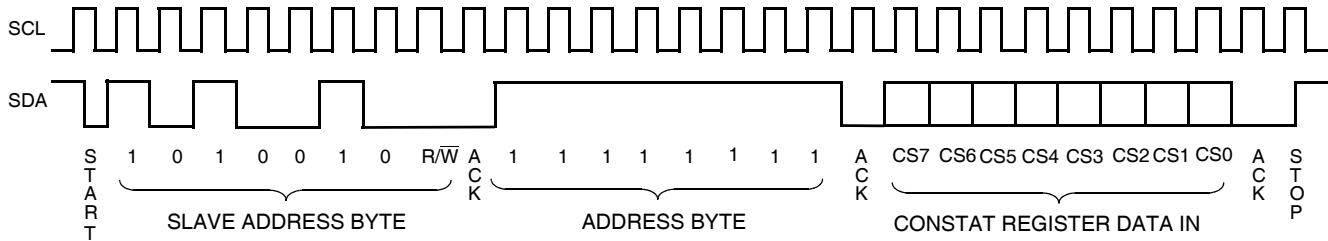

Figure 18. CONSTAT Register Write Command Sequence
Writes to the WEL bit do not cause an internal high voltage write cycle. Therefore, the device is ready for another operation immediately after a STOP condition is executed in the CONSTAT Write command sequence (See Figure 18).
- After a successful write operation to any bits of the CONSTAT register has been completed (See Figure 18).
The CONSTAT register is accessed using the Slave Address set to 1010010 (Refer to Figure 4.). Following the Slave Address Byte, access to the CONSTAT register requires an Address Byte which must be set to FFh. Only one data byte is allowed to be written for each CONSTAT register Write operation. The user must issue a STOP, after sending this byte to the register, to initiate the nonvolatile cycle that stores the BP1 and BP0 bits. The X9521 will not ACKNOWLEDGE any data bytes written after the first byte is entered (Refer to Figure 18.).